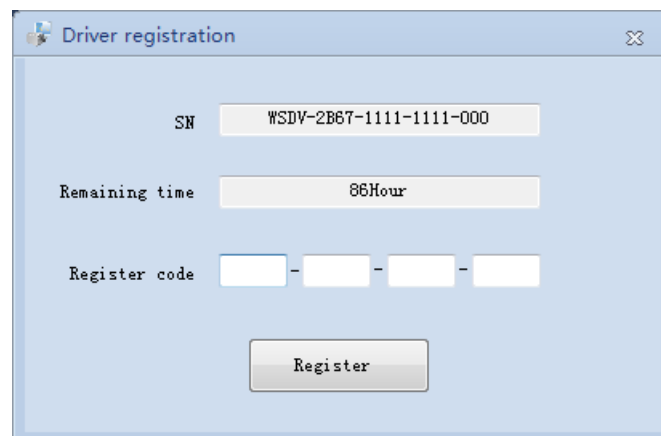

Fig. 10-7 Driver registration window
1. Click “Driver registration” in the pull-down list of “Other” to open the driver registration window, see Fig. 10-7.